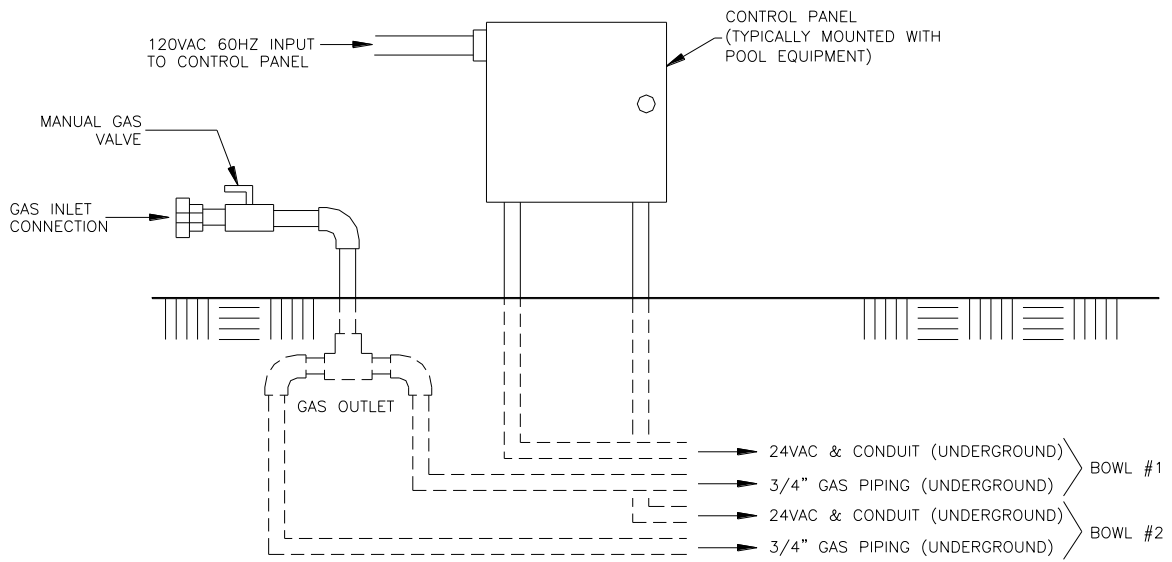
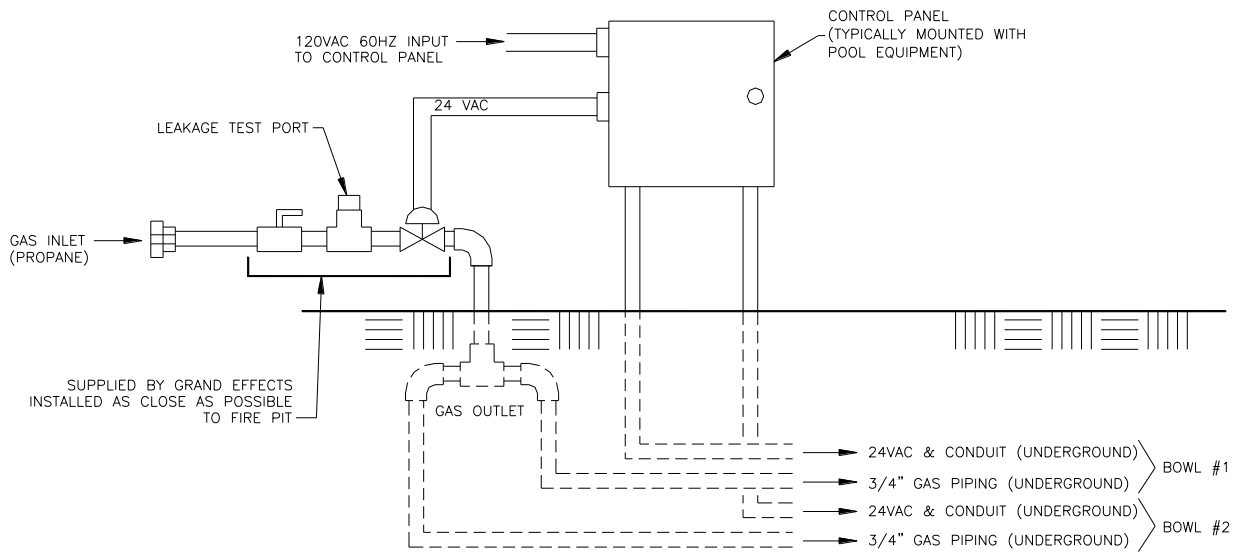

Fig. 1 (Natural Gas)
Fig. 2 (Propane Gas)
- 2.4 Install the Control Panel and gas piping as shown in Fig. 1(Natural Gas) or Fig. 2 (Propane Gas) or Fig.3 (Commercial Installation).
- 2.5 Note that propane piping is different than natural gas (shown in Fig. 1 and Fig.2).
- 2.6 The gas piping shall be installed underground between the Control Panel and each Fire Bowl as shown in Fig. 1. The piping shall be reduced to 1/2" NPT or larger at each Rock Insert as shown in Fig. 4.